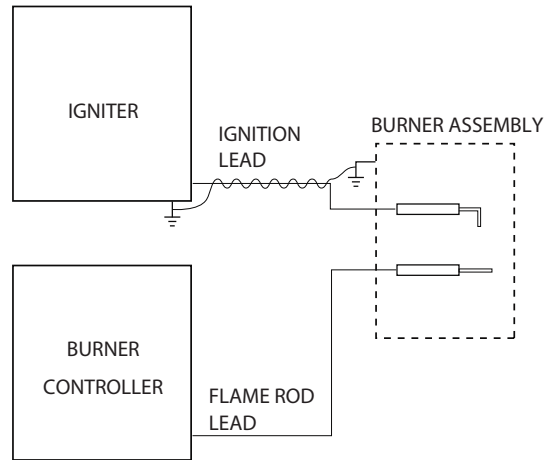

Fig. 1. Grounding the S720B to the burner assembly.
- (1) Use 16 or 18 AWG wire.
- (2) Attach one end of the wire to the S720B igniter end (GND).
- (3) If required, wrap the wire around the igniter (high tension) lead as shown in Fig. 1. Four or five wraps are sufficient.
- (4) Connect the other end of the wire to the burner assembly (GND).
- (5) Make sure the ground connection between the S720B and the burner body is secure.
- (1) Shut off the fuel supply to both pilot and main fuel valve manually.
- (2) Start system by raising controller set point or pressing start button.
- (3) Energize the S720B Igniter so that ignition spark is produced between electrode and ground.
- (4) Check to make sure that ignition has not occurred (there should be no flame). Repeat steps 1 through 3 until there is no flame.
- (5) Check the flame relay on the burner controller or the flame LED. If the relay has not pulled in (flame LED is off), the system is operating properly. Restore the fuel supply and continue the checkout with the Pilot Turndown Test.
- (6) If the flame relay pulls in (flame LED is on), stop the system as the burner controller is indicating flame regardless of the condition of the pilot or main burner flame.
- (7) If a flame rod sensor is being used, ignition interference may be the cause of relay pull in. Ignition interference is most easily detected by measuring the flame current with the ignition off, then on. A difference greater than 1/2 microampere indicates the presence of ignition interference. If ignition interference is detected, take the appropriate following steps:
- d. Try wrapping the ground lead around the igniter wire as shown in Fig. 1, if not already done.
- (8) If the flame relay pulls in (flame LED is on), replace the burner controller.
- (9) If replacing the burner controller does not eliminate flame relay pull in (flame LED on), contact your local Azbil branch office.
- (10) If an ultraviolet (UV) flame detector is being used, the UV detector may be responding to the UV radiation being emitted by the electric spark. To determine whether the UV detector is responding to the ignition spark and to eliminate the response, try the following steps to eliminate the spark pickup:
- (11) If the flame relay pulls in (Flame LED on), replace the burner controller.